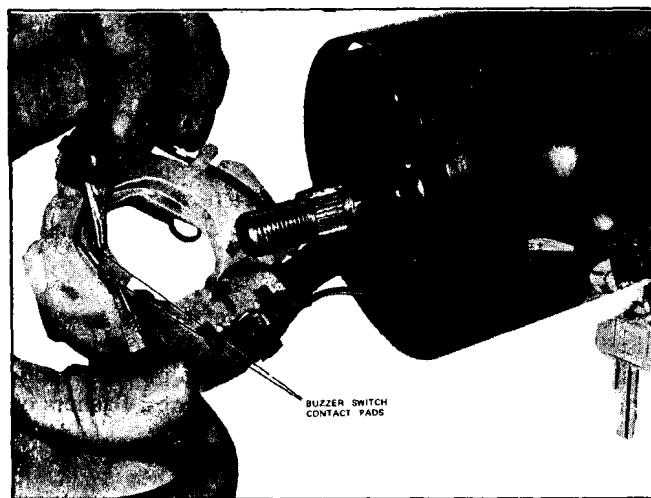

Fig. 12-8 Continuity of Buzzer Switch Contacts
6. Signal Switch Wiring Check - If, when checking the continuity of the buzzer switch the first time, contact was established, a jumper wire should be secured to the male "E" and "F" contacts of the harmonica (mounted on steering column). Check the buzzer switch contact pads with the continuity meter (Fig. 12-8).